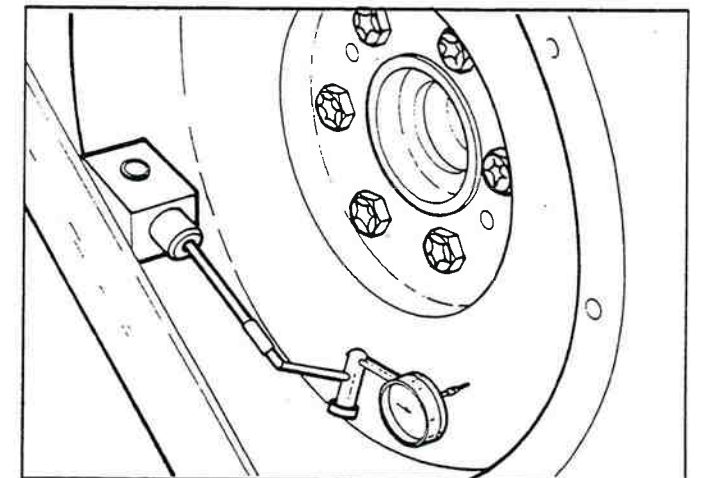

Figure 5-30. Flywheel Outer Edge Runout.
4. Next, secure dial indicator to engine flywheel housing with gauge stylus on face of flywheel near the outer edge (figure 5-30). Rotate flywheel. Maximum permissible runout is .0005" per inch of flywheel diameter. For instance, with a 15 1/2" clutch, .0075" (.1905 mm) runout is allowable.